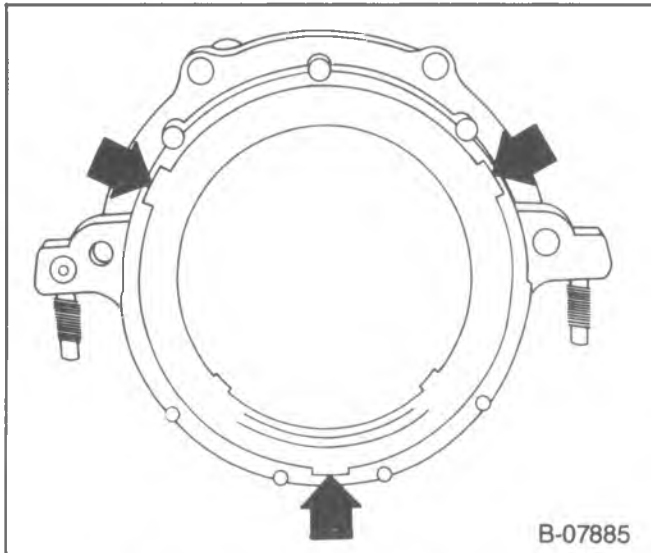

Figure 21—Seal Removal Notches
↔ Remove or Disconnect (Figure 21)
3. Rear crankshaft oil seal. Insert a screwdriver into the notches provided in the seal retainer and pry the seal out (figure 21). Take care not to damage the crankshaft seal surface.
Remove or Disconnect (Figures 21 and 23).
4. Screws (80) and nuts (81).
5. Seal retainer (82).
6. Gasket (84).
7. Rear crankshaft oil seal. Insert a screwdriver into the notches provided in the seal retainer and pry the seal out (figure 21).